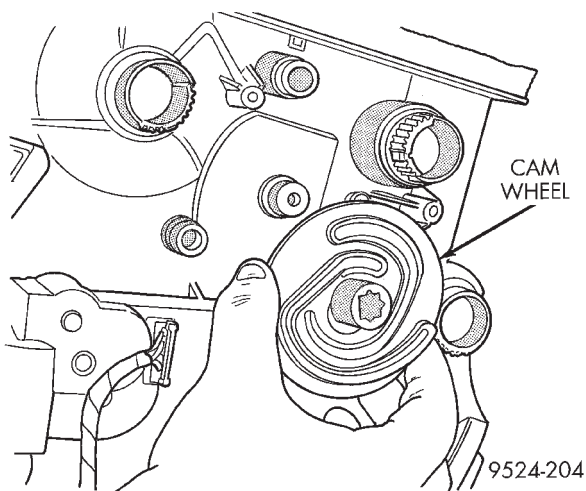

Fig. 66 Cam Wheel
(13) Remove cam wheel (Fig. 66).